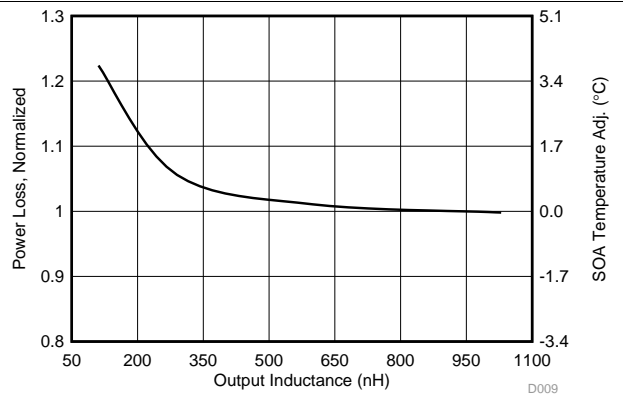

Figure 8. Normalized Power Loss vs Output Inductance
- Normalized power loss for output inductor ≈ 1.01 (Figure 8)
- SOA adjustment for output inductor $\approx 0.18^\circ\text{C}$ (Figure 8)